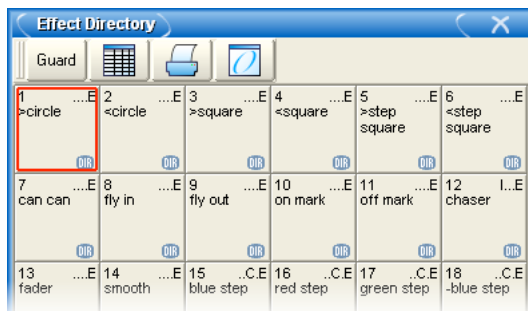

Figure 23.2. The Effect Directory
You can quickly apply effects to the current selection using predefined effects palettes in the Effect Directory; see *Figure 23.2, "The Effect Directory"*. Effects palettes for parameter functions not available in the current selection will be greyed out; for example the Iris Step palette is not available for Studio Color 575s as they do not have an iris parameter.
2. **Open + Effect :** the Effects Engine and Effect Directory will open; see *Figure 23.4, “The Effects Engine”* and *Figure 23.2, “The Effect Directory”*.